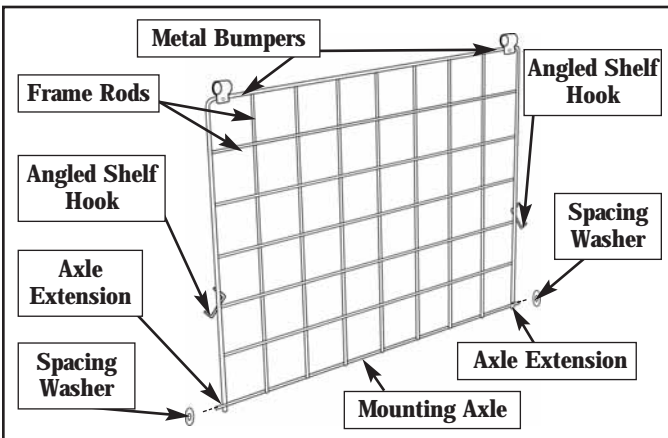

Figure 7. Shelf features.
The mounting axle is on the back of the shelf and extends beyond the sides of the shelf (Figure 7, page 6).
1. Place a spacing washer on each axle extension (Figure 7, page 6).
Make sure the top side of the shelf is up; the left, right and front frame rods should be on the bottom (Figure 7).